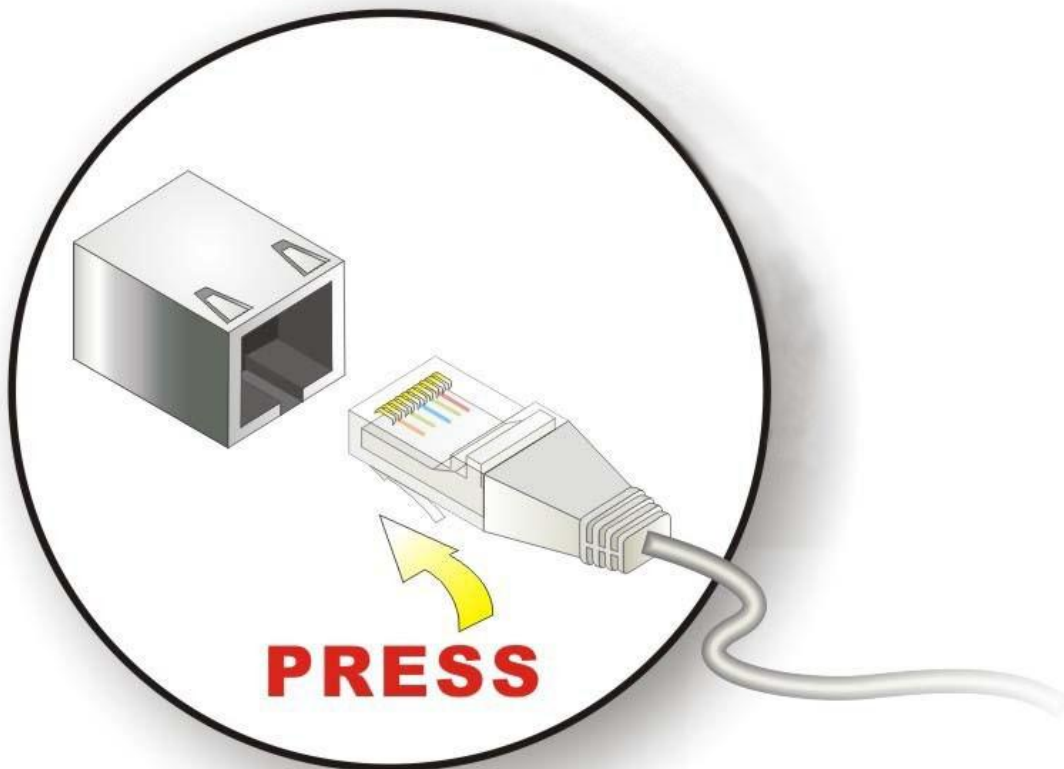

Figure 4-16: LAN Connection
Step 2: Align the connectors. Align the RJ-45 connector on the LAN cable with one of the RJ-45 connectors on the AESQ67-967 Series. See **Figure 4-16**.